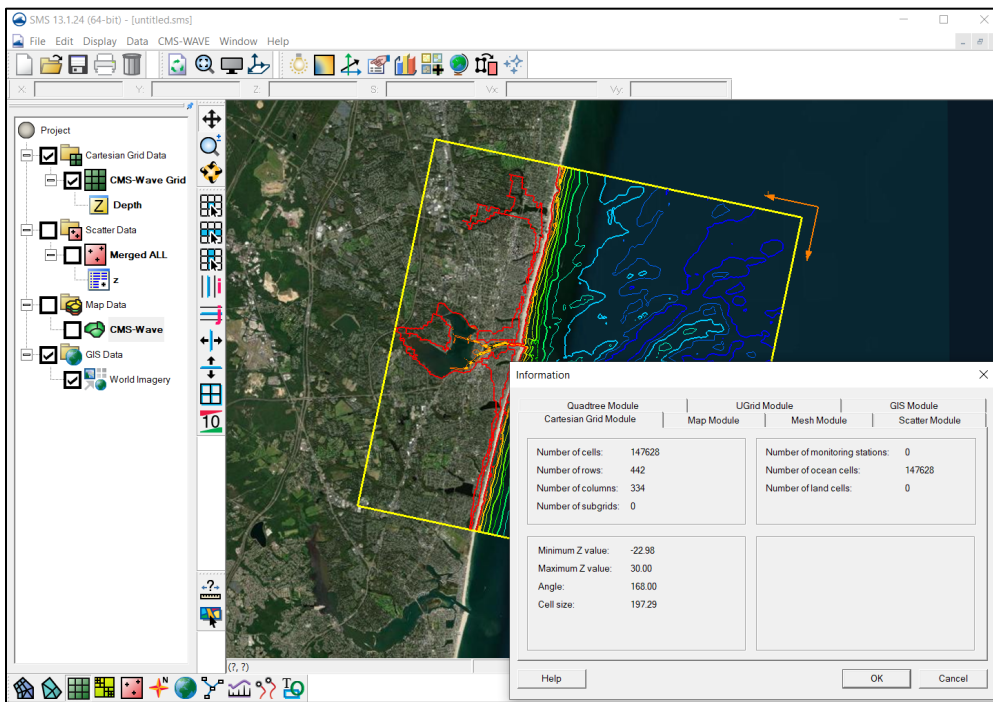

Figure 15. Display *Save as type* dialog.
- Select either “Project File (*.sms)” or “CMS-Wave simulation (*.sim)” from the *Save as type* drop-down and provide “File name:” (Figure 15).